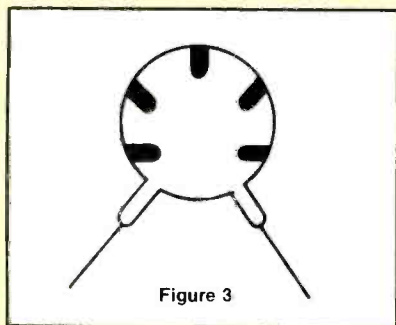

Figure 3
7. The best way to be sure you can read the color code for all different types of capacitors is to have a good wall chart. Which of the following is *not* given in the color code of the disc ceramic capacitor shown in Figure 3?